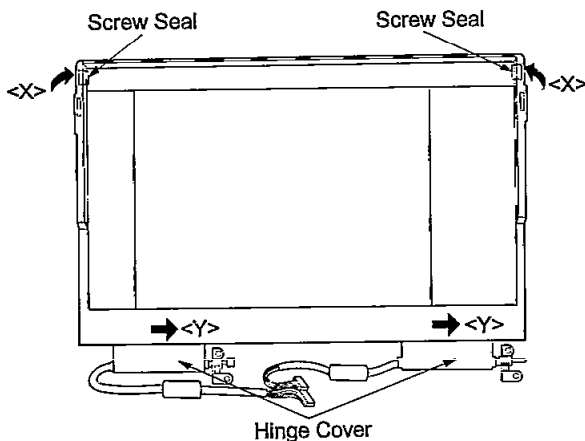

Figure 24
- (1) After removing the display panel, remove two screw seals in the direction of the arrow <X>.
- (2) Slide the hinge covers in the direction of the arrow <Y>, then remove them as shown in Figure 24.
- (3) Remove six screws <A> ($\text{Ø}2 \times 3 \text{ mm}$).